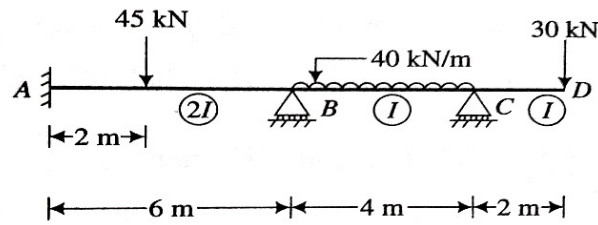

Figure 7.
9. Analyze the beam shown in figure 7, by using stiffness matrix [14M]